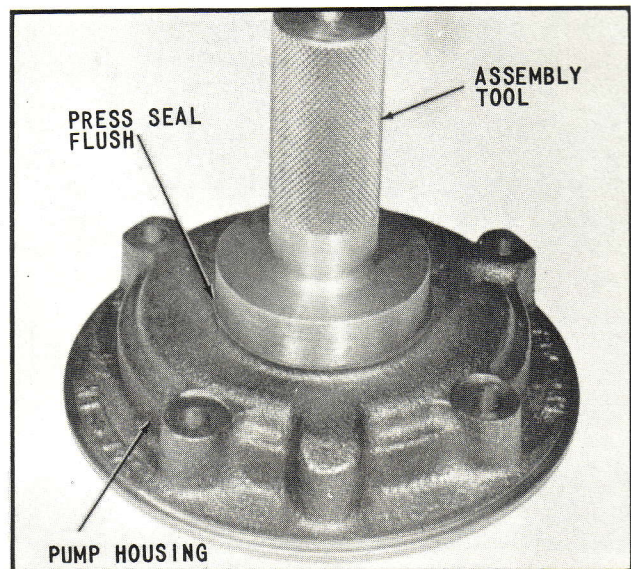

Fig. 64 Pressing Pump Oil Seal into Housing
- 59. Using an arbor press and suitable tool, press seal into housing until front face of seal is flush with front face of pump housing (Fig. 64).